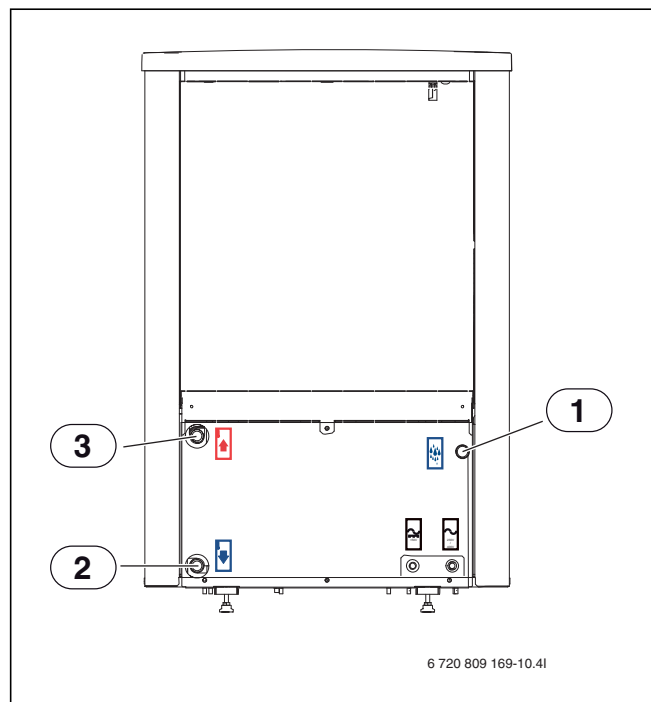

Fig. 13 The heat pump connection description applies to all sizes.
- ▶ Install a particle filter intended for outside use on the heat pump return, directly on the heat exchanger (→ [2], Fig. 13).
- ▶ Connect heat transfer medium pipes in from the heat pump module (→ [2], fig. 13).
- ▶ Connect heat transfer medium pipes out to the heat pump module (→ [3], fig. 13).